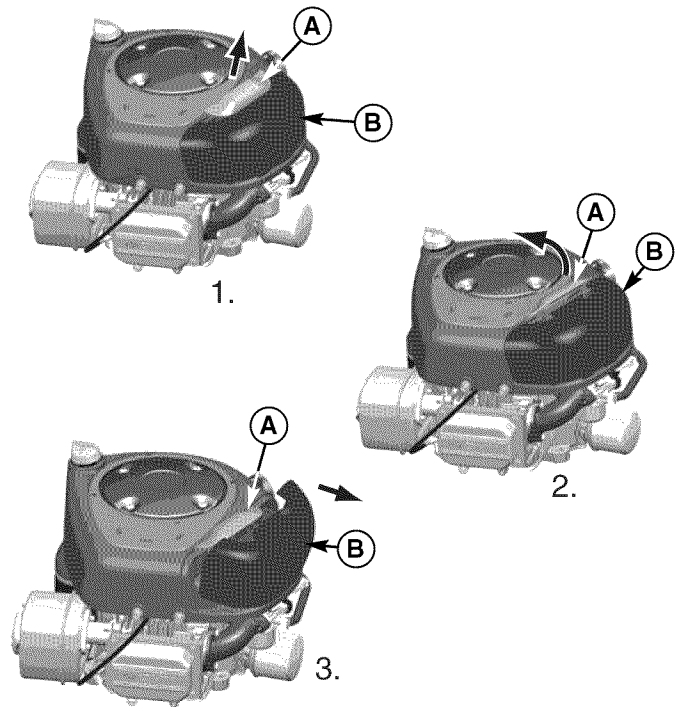
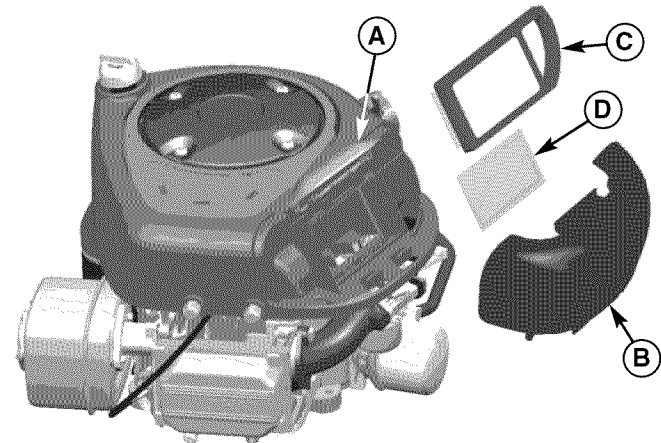

Figure 31. Air Filter Assembly
Figure 32. Air Filter Service
1. Lift up on the bottom of the latch (A, Figure 31 or 32) and flip the latch away from the cover (B).
2. Remove the cover (B). Remove the filter (C, Figure 31) and pre-cleaner (D).
3. Install the pre-cleaner (D) with the mesh side up. Install the filter (C) as shown.
4. Install the cover (B, Figure 32) making sure the tabs are inserted into their slots.
5. Secure with the latch (A).